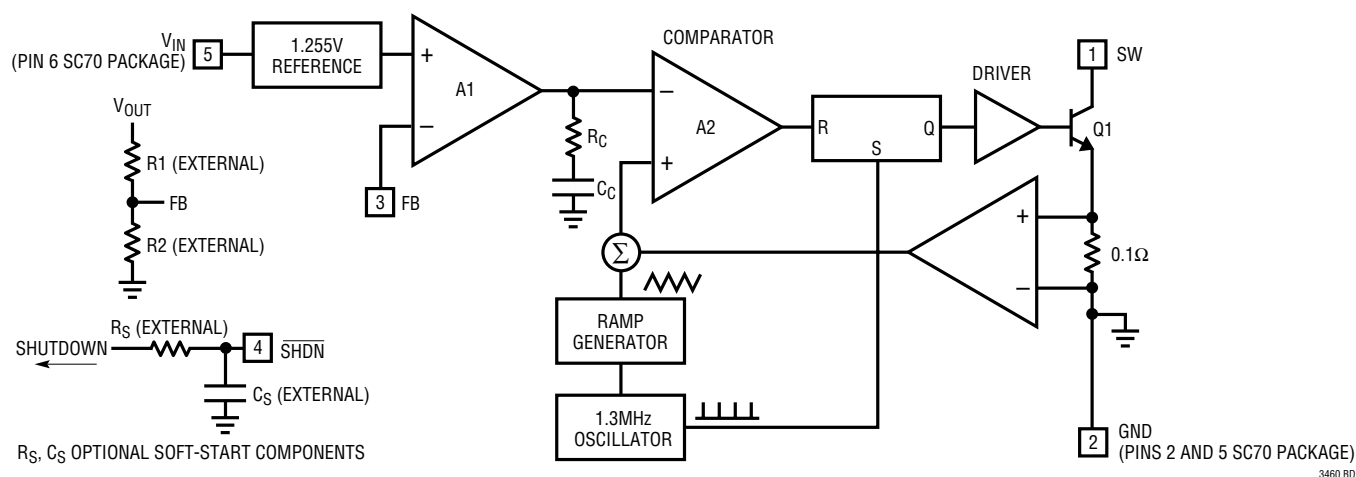
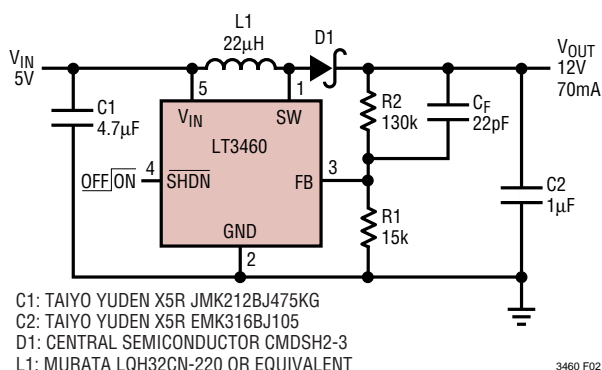
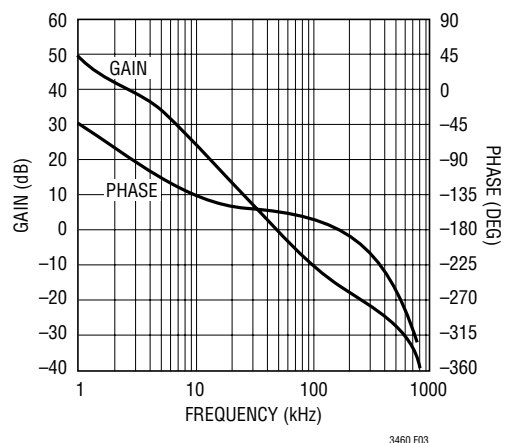

Figure 1. Block Diagram
Figure 2. 5V to 12V Step-Up Converter
Figure 3
**SHDN (Pin 4/Pin 4):** Shutdown Pin. Tie to 1.5V or higher to enable device; 0.4V or less to disable device. Also functions as soft-start. Use RC filter (47k, 47nF typ) as shown in Figure 1.
The LT3460 uses a constant frequency, current mode control scheme to provide excellent line and load regulation. Operation can be best understood by referring to the block diagram in Figure 1. At the start of each oscillator cycle, the SR latch is set, which turns on the power switch Q1. A voltage proportional to the switch current is added to a stabilizing ramp and the resulting sum is fed into the positive terminal of the PWM comparator A2. When this voltage exceeds the level at the negative input of A2, the SR
The LT3460 has an internal feedback compensation network as shown in Figure 1 ( $R_C$  and  $C_C$ ). However, because the small signal characteristics of a boost converter change with operation conditions, the internal compensation network cannot satisfy all applications. A properly designed external feed forward capacitor from  $V_{OUT}$  to FB ( $C_F$  in Figure 2) will correct the loop compensation for most applications.
The feedback loop gain  $T(s) = K3 \cdot G_P(s) \cdot G_C(s)$ . If it crosses over 0dB far before  $f_z$ , the phase margin will be small. Figure 3 is the Bode plot of the feedback loop gain measured from the converter shown in Figure 2 without the feedforward capacitor  $C_F$ . The result agrees with the previous discussion: Phase margin of about 20° is insufficient.
In order to improve the phase margin, a feed-forward capacitor  $C_F$  in Figure 2 can be used.